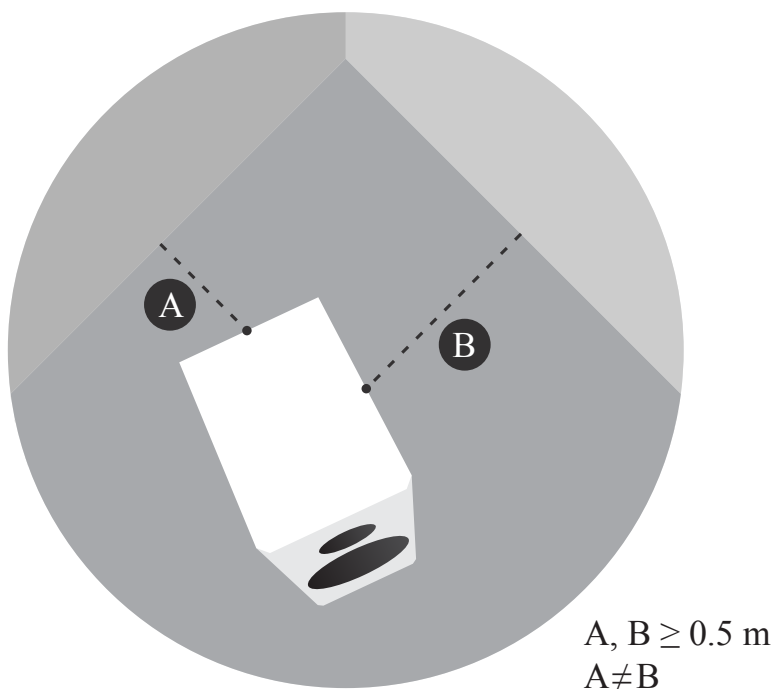

Figure 4: Distance to walls
- To reduce possible influences from the back and sidewalls, the distance to these boundaries should ideally not be less than 0.5 meters (see Figure 4).